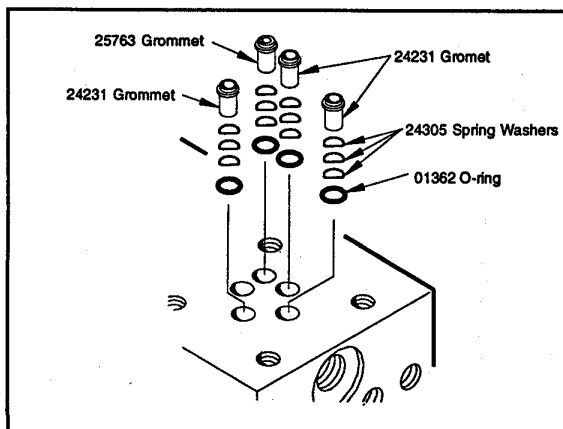

Figure 5. Valve Block & Grommets
4. Apply grease and install the grommets (38 & 41), spring washers (39), and o-rings (40) as shown in figure 5.